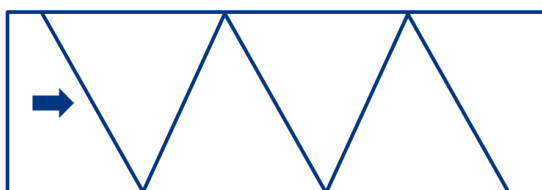

Figure 4a: W-patterns (zigzag) for collecting soil samples
- When sampling, walk in a zigzag (W) pattern across the field (see figure 4a below), making sure that you take at least six sub-samples in each leg.